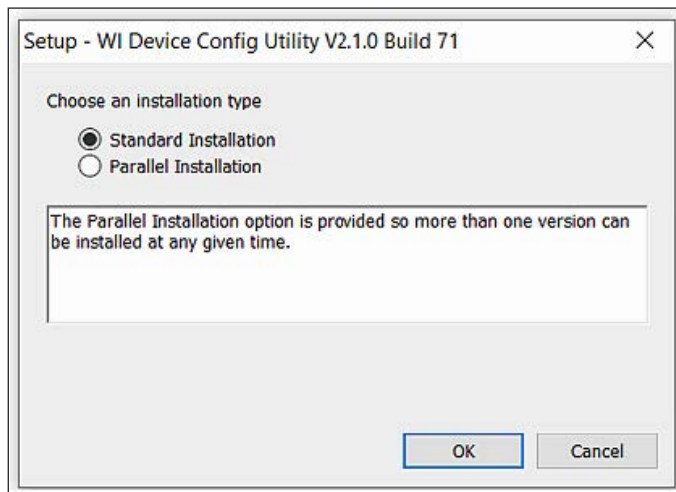

Figure 27.
- Follow the on-screen instructions to install the software (see **Figure 27**).